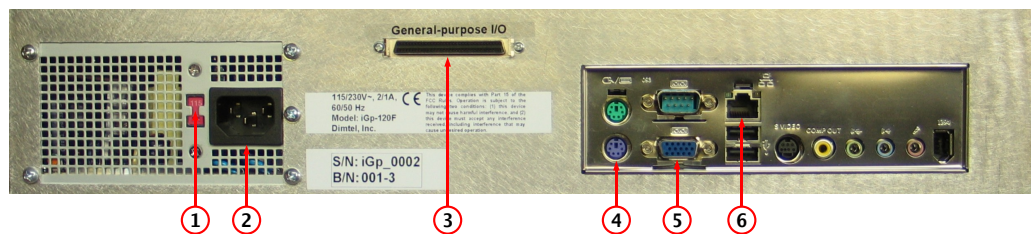

Figure 3: Rear panel features
**WARNING:** Before connecting power to the unit make sure the voltage selection switch (Fig. 3, item 1) is in the correct position (115 or 230 V).
1. Configure voltage selection switch (Fig. 3, item 1). Mains supply requirements for the iGp-5120F are listed in Table 9;
7. Connect a PS/2 keyboard (Fig. 3, item 4);
8. Connect a video monitor (Fig. 3, item 5);
Setup program is included in the **IOC** for configuring the important features of the iGp-5120F. The program can be executed locally or remotely. For local execution one must first connect a keyboard (Fig. 3, item 4) and a video monitor (Fig. 3, item 5) to the system. For remote setup, use **ssh** after system bootup to establish connection. In both setup methods the user must login as **root** (initial password is supplied with the system). If the newly received iGp-5120F must be configured remotely (when, for example, a keyboard or a monitor is not available), such configuration can be performed using a dedicated network. Set up a network consisting of the iGp-5120F, a network hub or a switch, and a remote computer. The iGp-5120F is delivered with the following network configuration:
- Make sure no cable is connected to the general-purpose digital **I/O** port (Fig. 3, item 3);